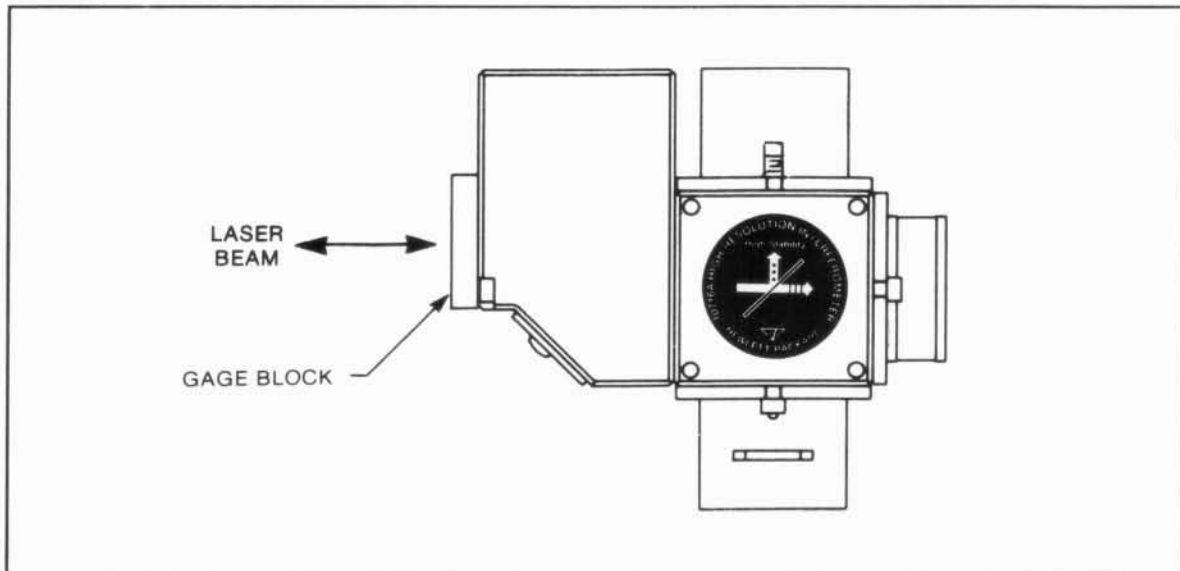

Figure 6-52. HP 10716A with Gage Block Attached
- d. Place a rectangular gage block over the input aperture so that it reflects the laser beam back toward the laser. (See *Figure 6-52*.)